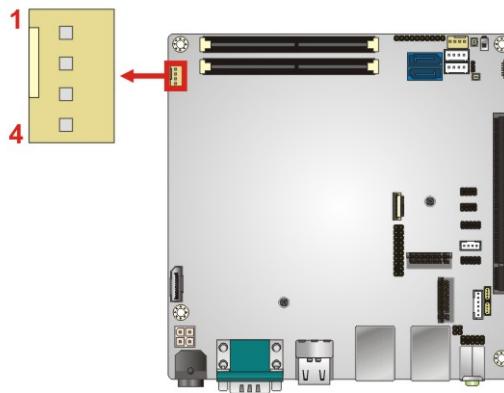

Figure 3-11: CPU Fan Connector Location
- CN Location:** See **Figure 3-11**